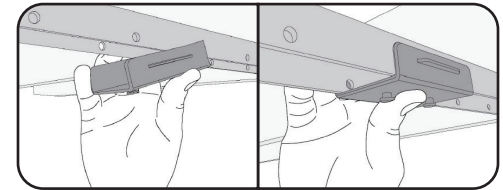

fig 4.1
3. Clip the universal mounting bracket, included with the Power Adapter, onto the Smart Track. The nubs should snap into place. (fig 4.1)